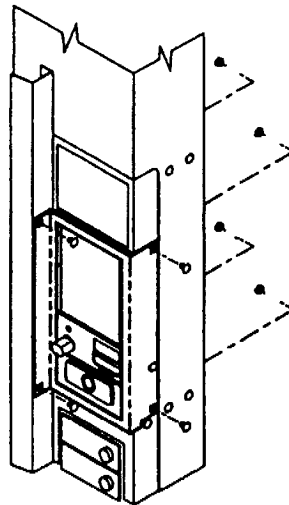

Figure 2
3. Use the carriage bolt to align the frame on the door as shown in figure 2, page 1.